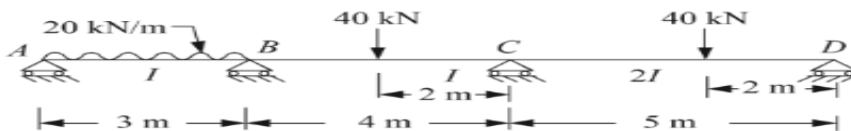

Fig. Q3
3. Analyse the beam shown in Fig. Q3 by Moment Distribution method. Draw BMD 20 (3 :2 : 2.2.1)